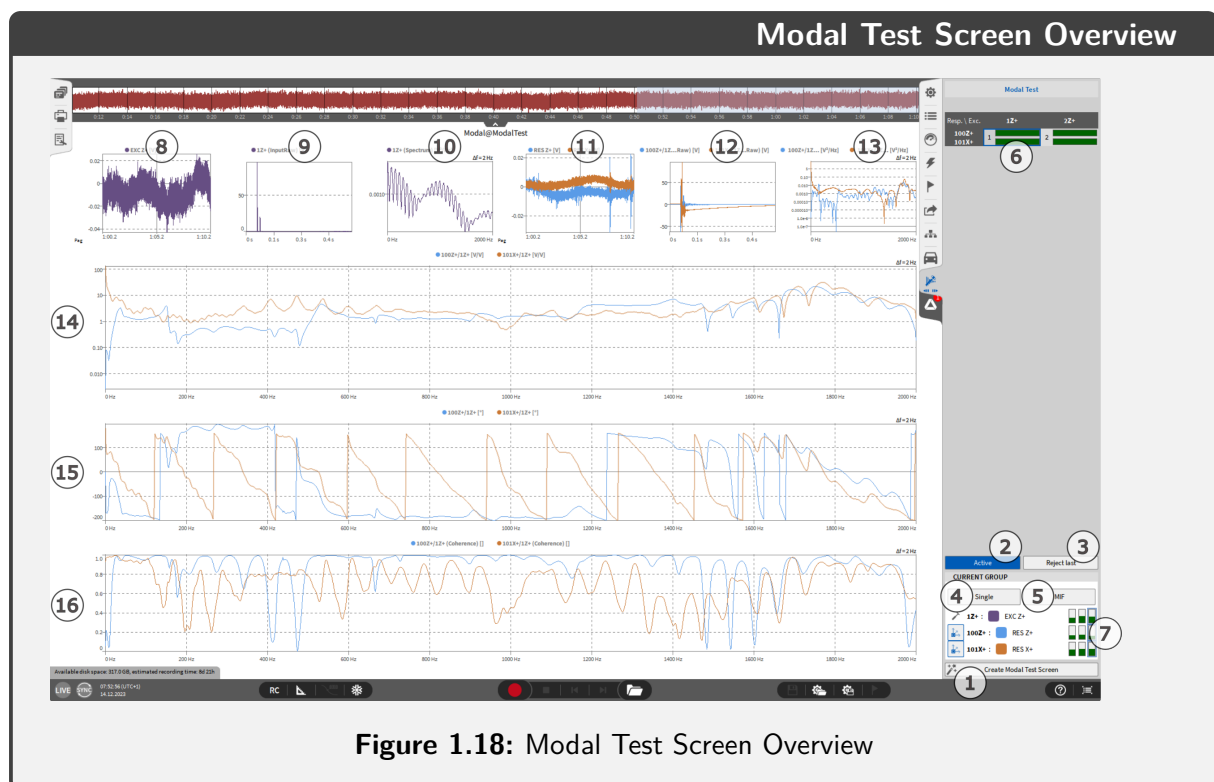

Figure 1.18: Modal Test Screen Overview
This can be done with any instrument to create your custom modal test screen. To get back to a default modal test screen, click again on the "Create Modal Test Screen" button (1) in figure 1.18, which adds a new screen with the default modal test screen, based on a template.
The individual response axes can be hidden, shown in figure 1.20 (1) where a click on the axes symbol toggles the displayed data in the amplitude response, seen in figure 1.18 (14), the phase shift response (15) and the coherence function (16). In the first excitation of this group, the x response bar is displayed as red. This indicates an exceeding of the sensor range. Further details are described in the operation basics chapter.